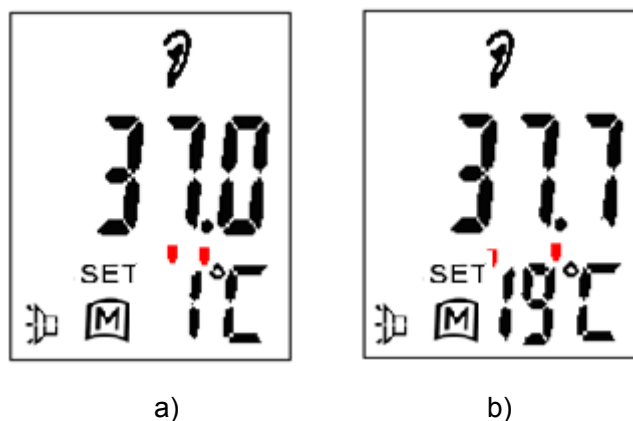

Figure 12
In measuring mode press I/O button ⑤ LCD will display the last reading (Reading 1) (see figure 12 a)) for example). Press START button ⑥ consecutively to recall the other 18 readings in succession. (see figure 12 b))